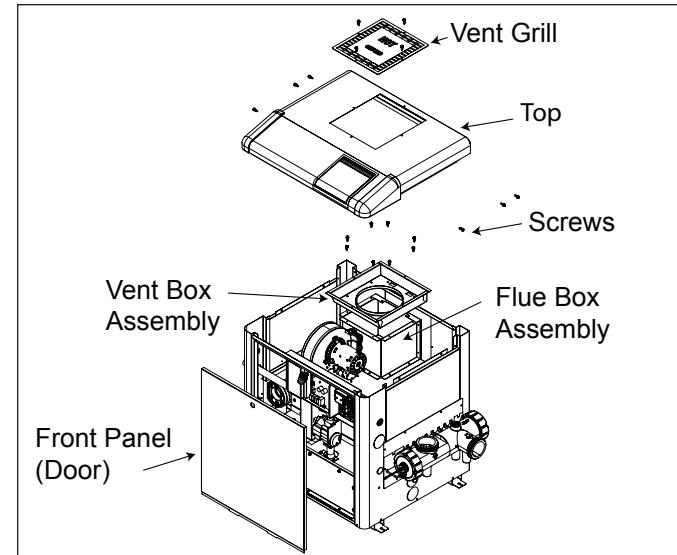
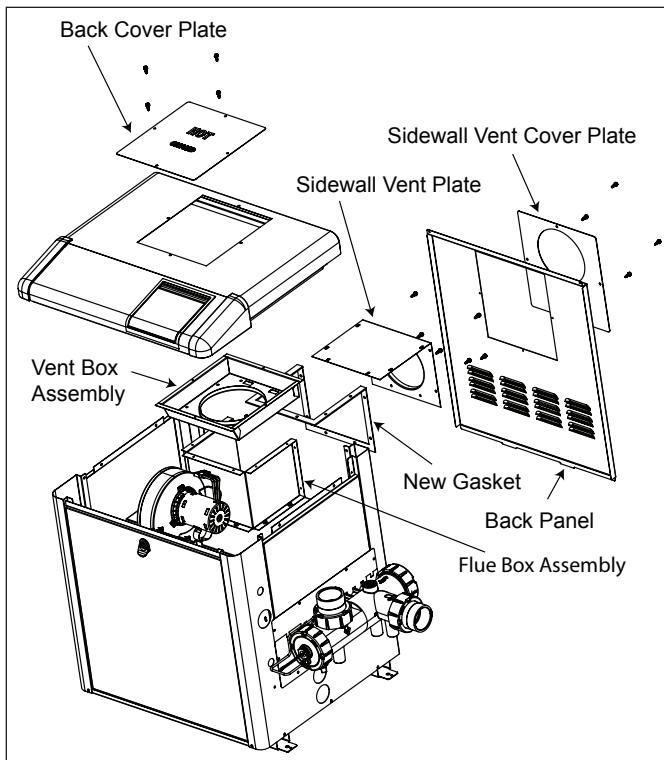

Figure 2. Accessing the Vent Box Assembly
Figure 4. Installing New Sidewall Vent Plate
4. Remove the four (4) screws that secure the vent grill. Discard the vent grill. See Figure 2.
6. Remove the six (6) screws that secure the top assembly to the cabinet. Remove the top assembly. See Figure 2.
7. Remove the eight (8) screws that secure the vent box assembly to the flue box assembly. See Figure 2.
8. Remove the six (6) screws that secure the flue box plate to the flue box and discard the flue box plate.
- NOTE** Install the new gasket onto the flue box assembly. See Figure 4.
11. Install the new sidewall vent plate onto the flue box assembly and secure it using six (6) screws. See Figure 4.
12. Re-install the vent box assembly onto the flue box assembly and secure it using six (6) screws. See Figure 4.
13. Re-install the top and secure it using six (6) screws. See Figure 2.
14. Remove the four (4) screws that secure the back cover plate onto the back panel. See Figure 4.
the vent grill was originally located) and secure it using four (4) screws. See Figure 4.
16. Install the vent tube (customer supplied) onto the sidewall vent plate and secure it using four (4)
17. Install the new sidewall vent cover plate onto the back using four screws. See Figure 4.